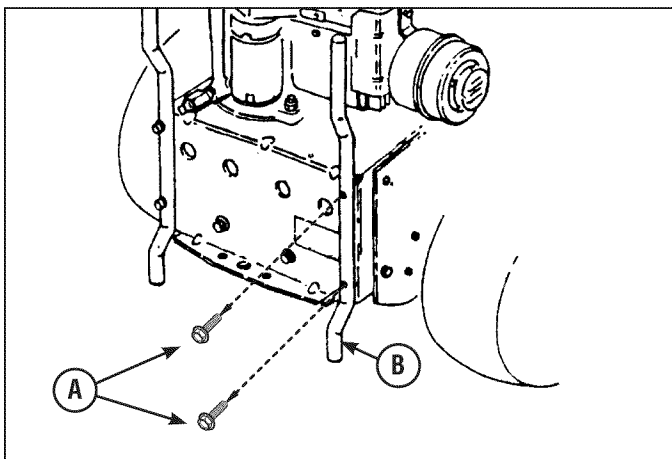

Figure 6
1. Remove the two screws (A, Figure 6) securing the right side rear bumper (B).